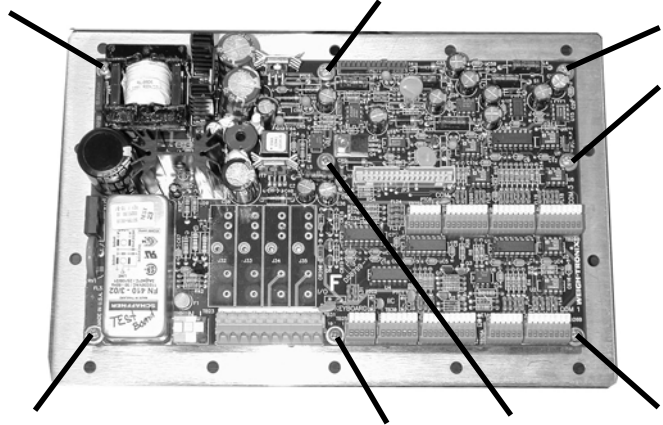

Figure 12
3. If you need to remove the power supply board from the inside of the back cover, begin by disconnecting the power supply wires and the wires leading to the main board. Remove the eight screws holding the pc board as shown in Figure 12.